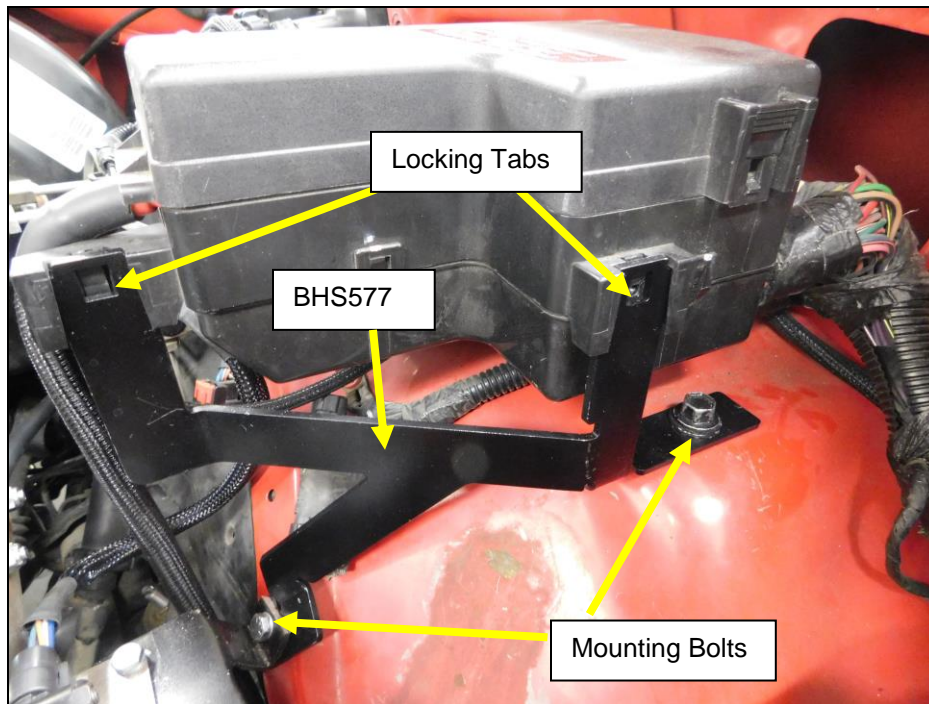

Figure 1
1. Using the existing mounting points on the fuse box that correspond to the bracket. Install the BHS577 bracket into the (x2) slots on the fuse box until the tabs lock into place as shown in **Figure 1**.